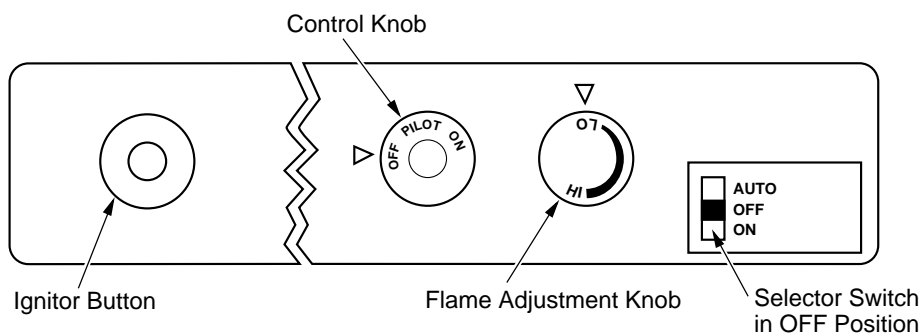

Figure 29 - Control Knob and Ignitor Button Location
4. Press in and turn control knob clockwise  to the OFF position (see Figure 29).
5. Wait five (5) minutes to clear out any gas. Then smell for gas, including near the floor. If you smell gas, **STOP!** Follow "B" in the safety information, starting in column 2, page 18. If you don't smell gas, go to the next step.
6. Press in and turn control knob counterclockwise  to the PILOT position. Press in control knob for five (5) seconds (see Figure 29).